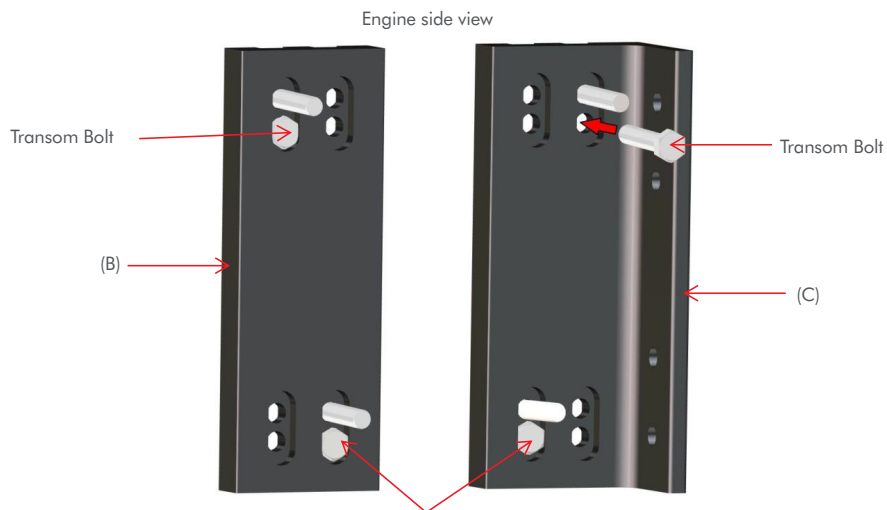

Figure 3
STEP 3: Install the transom bolts through the holes directly below the engine bolts in the M to S adapter plate **(C)** and shim **(B)** as illustrated **(FIG. 3)**.